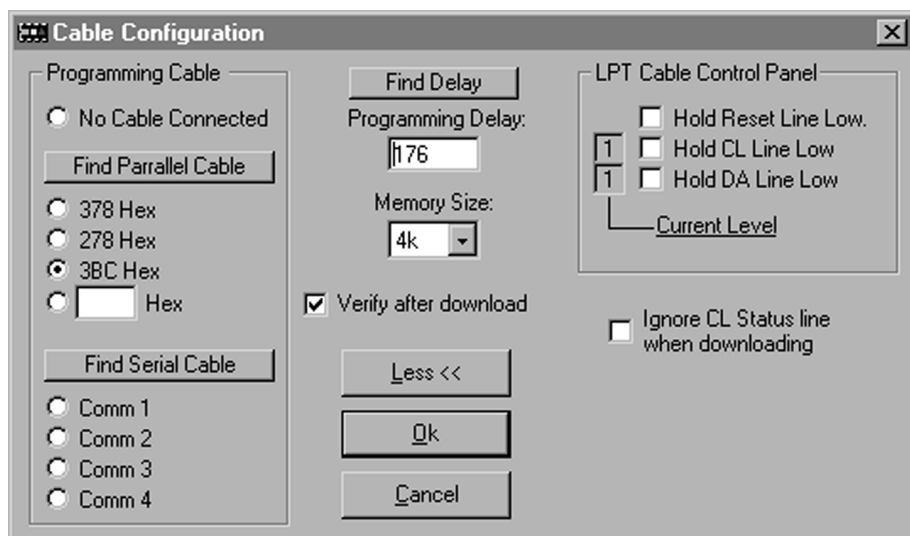

Figure 2-18 Cable diagnostics
diagnostic section shown in Figure 2-18. Apply power to your OOPic board and make sure that the Hold Reset Line Low box is *not* checked.
- You can troubleshoot the wiring in your DIY programming cable by using the Cable Configuration dialog box. Click the Tools menu and select the Cable Configuration function. Then press More to get the display shown in Figure 2-18 and perform these checks: